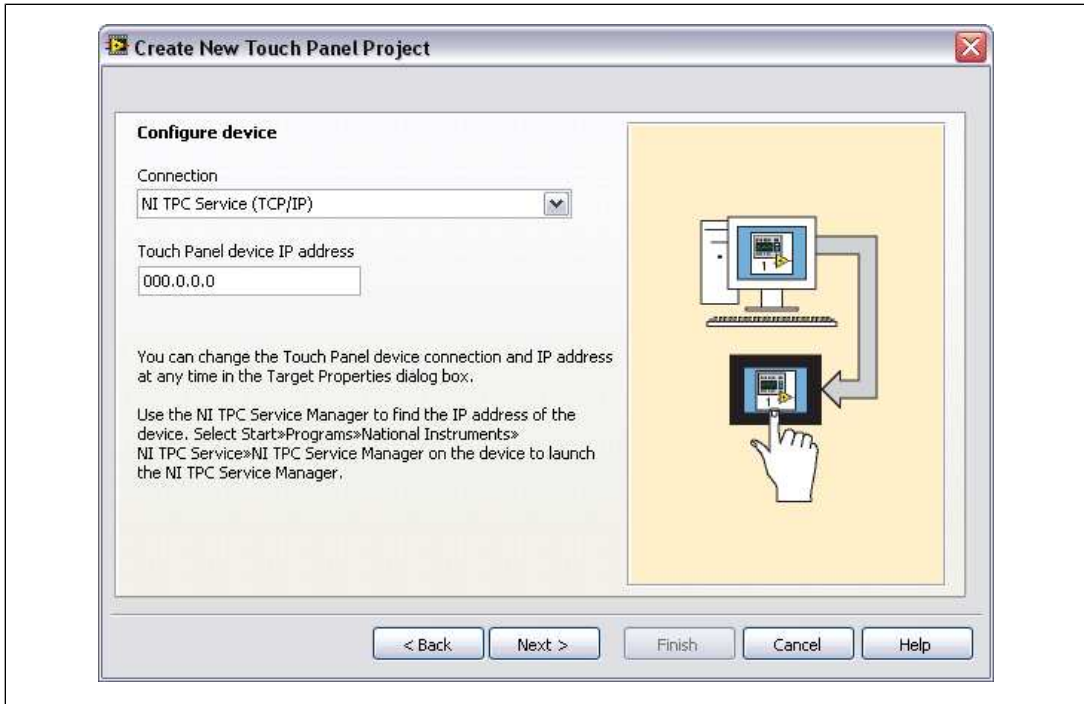

Figure 3. Configuring the Device
6. Configure connection information for the device as shown in Figure 3.